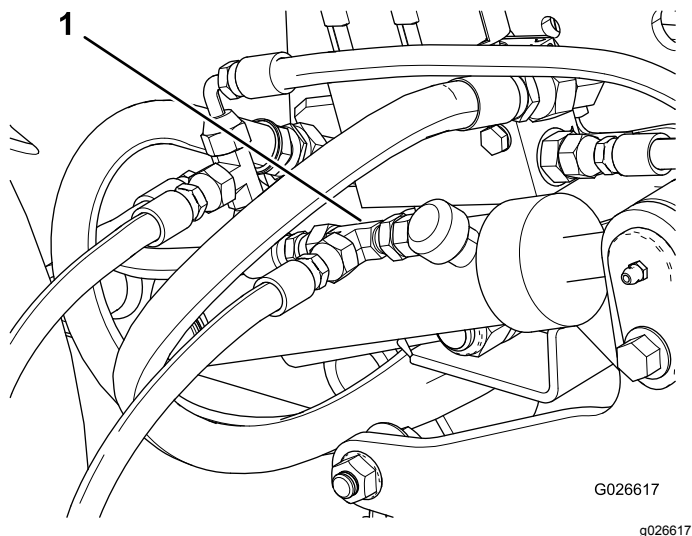

Figure 14
8. Install the tee fitting (Figure 14).